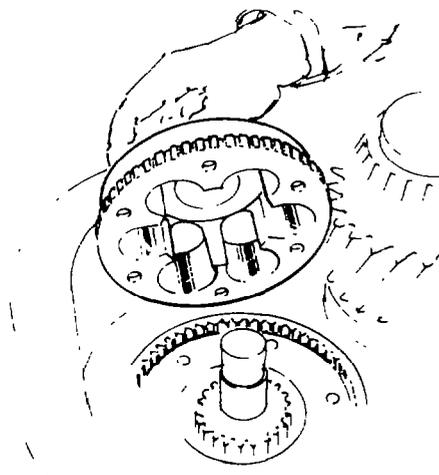

Fig. 230 — Removing Planet Gear
- v. Remove the planet cage retaining bolts (female head) and remove the planet cage (see fig. 230).